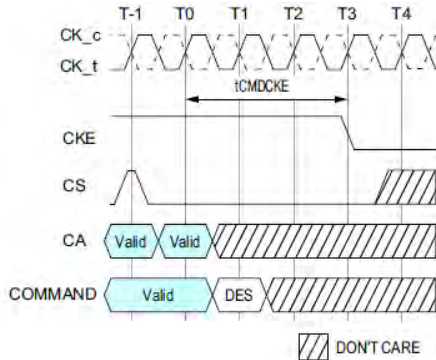

Figure 25. tCMDCKE Timing
- The DQS input mask for timing with respect to CK is shown in Figure 25. The "total" mask (tWLIVW) defines the time the input signal must not encroach in order for the DQS input to be successfully captured by CK with a BER of lower than tbd. The mask is a receiver property and it is not the valid data-eye.